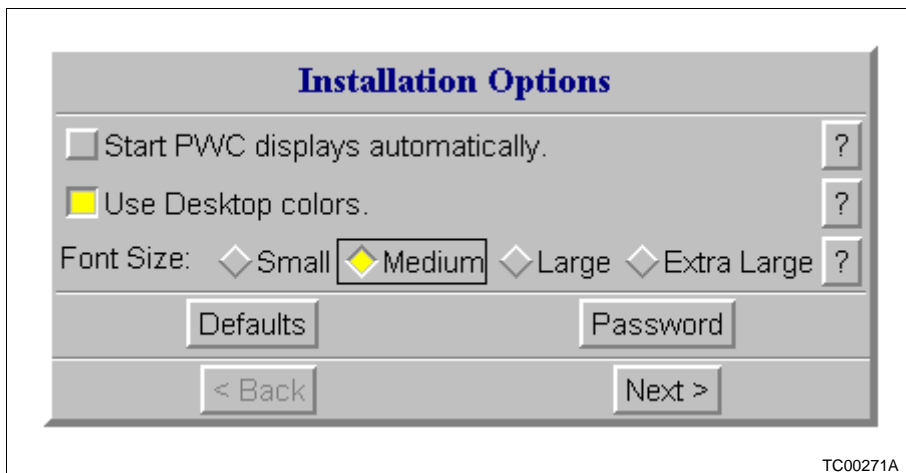

Figure 4-2. Installation Options Window
15. The *PWC Installation Options* window (Figure 4-2) will appear, which contains several options with toggle buttons. An option is selected if the associated toggle button is yellow. For a description of an option, click the corresponding ? button. The *Default* button will select all of the default options, and reset the password of the pwcuser account to the default. (The default password is **passwd**.) The *Password* button allows for the changing of the password for the pwcuser account. (Refer to **PWC90 USER ACCOUNT** in Section 5 for more details about the pwcuser account). Once all option choices have been made, click on *OK*. (The selection of options can be changed later by running PWC90 Setup program after installation, by selecting it from the *Elsag Bailey PWC* program group in the Program Manager.)